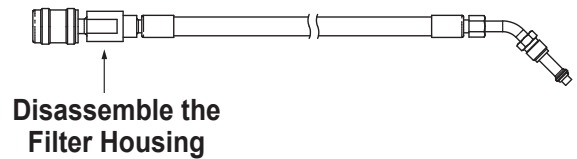

Figure 19
2. Disassemble the tank fill hose at the filter housing as shown in Figure 19.